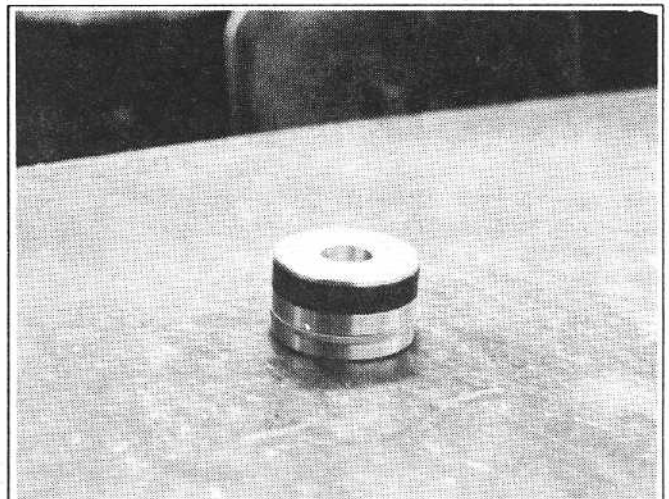

Figure 4-5
5. Assemble the wear ring into its groove on the O.D. of the piston. (See figure 4-5)